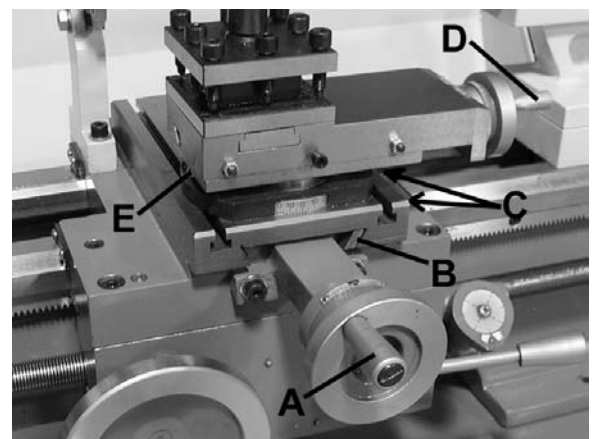

FIGURE 14
The cross slide handwheel (A) Fig.14 is used to feed the entire cross slide, top slide and tool post with cutting tool towards the workpiece. After time the cross slide gib (B) may become loose or too tight and an adjustment may be necessary. To adjust the gib (B), tighten or loosen the hex. nuts and set screws (C) on the right side until the cross slide moves freely without play.